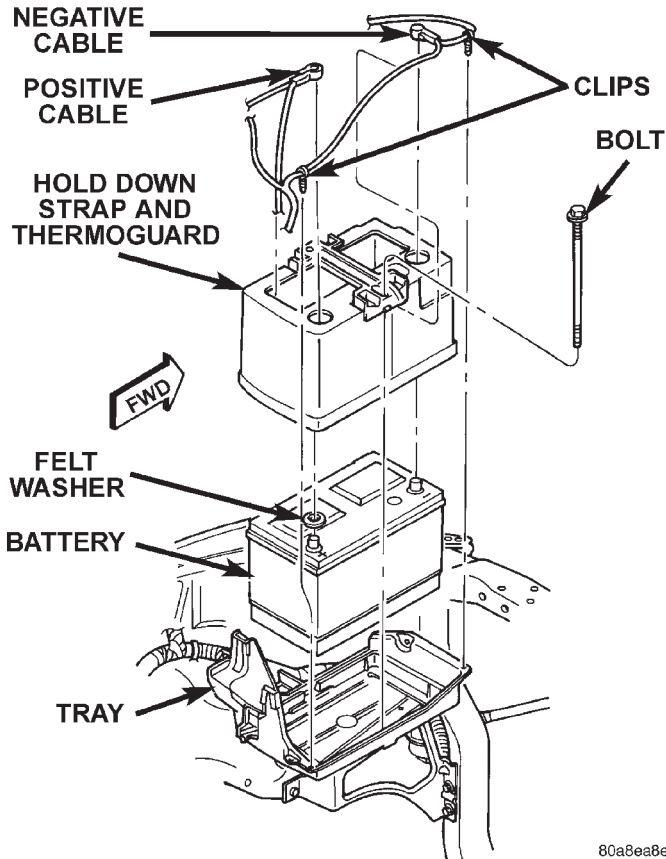

Fig. 17 Battery Holddowns
(4) Remove the battery holddowns (Fig. 17) and remove the battery from the battery tray.